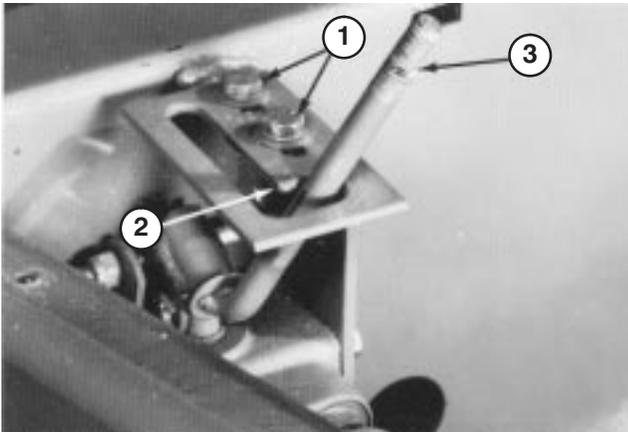

Figure 63
- Loosen two capscrews on top of the lift lever latch (Fig. 63). Place lever on rounded tip of latch (Fig. 63), and slide latch w/lever forward until stopping resistance is felt. Then tighten capscrews to lock the latch in place. Check for free operation of the lift lever by moving lever from RAISE or TRANSPORT to FLOAT position. Lift lever should just clear rounded position of latch as lever is moved into FLOAT position.